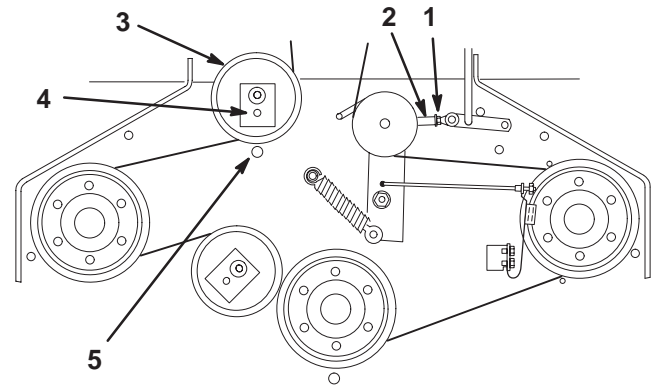

Figure 49
- Loosen locknut on turnbuckle (Fig. 49).
- Rotate turnbuckle toward rear of mower to increase tension on belt. Rotate turnbuckle toward front of mower to decrease tension on belt (Fig. 49).
- If the belt is still loose after making adjustments to the turnbuckle, reposition the rear idler pulley to the front hole. The belt guide next to the pulley must also be moved to the front hole (Fig. 49).